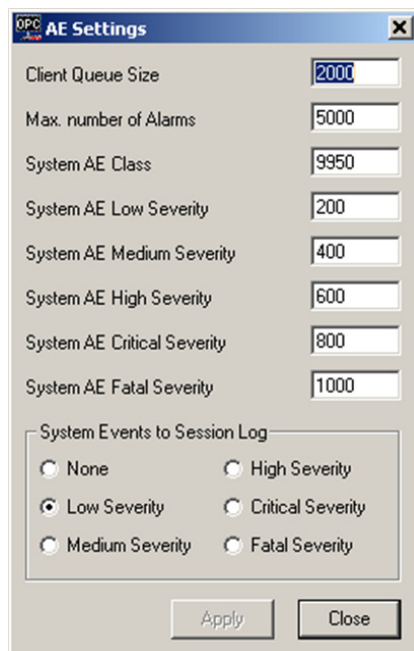

Figure 22. AE Settings
- **Max. Number of Alarms:** This setting can be found under AE Settings (Figure 22). To access AE Settings, select: